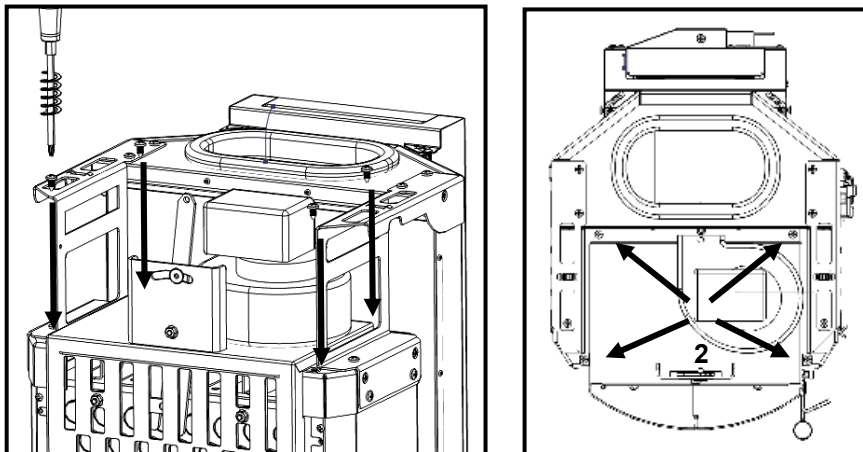

Figure 109 – Fixing the ventilator to the equipment
e) Tighten the Figure 109 assembly on the top face of the combustion chamber using 4 screws **A** (DIN 7981 5,5x13) in the holes prepared for this purpose (2).